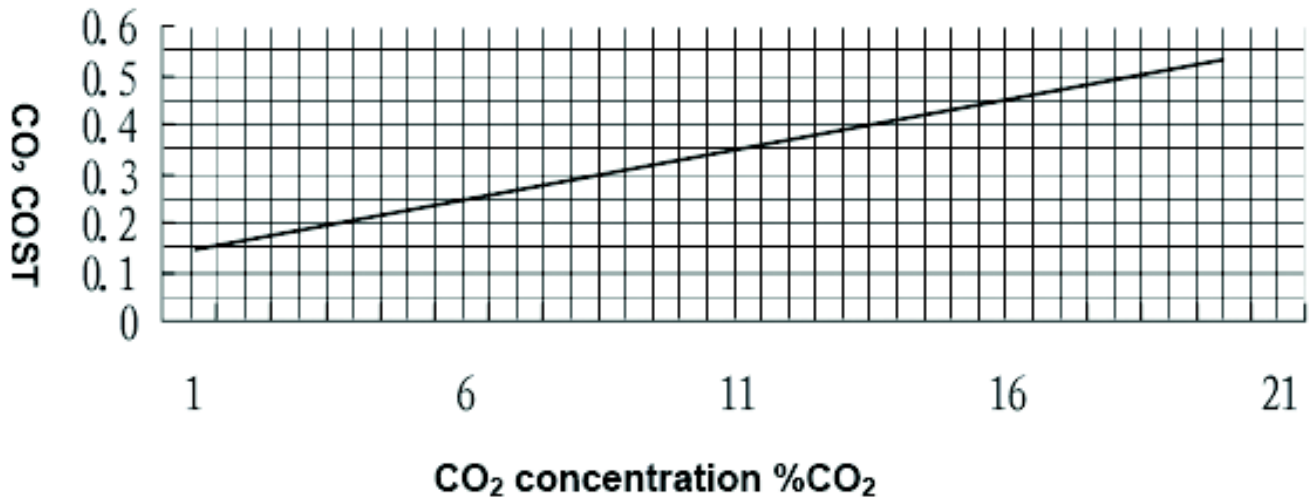

Fig. 10: Consumption of CO₂ (Door Closed)
- Appendix of CO₂ aeration (refer to Fig. 10).